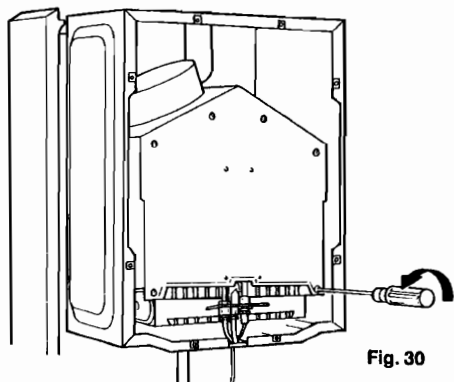

Fig. 30
8.7.3 Remove front of combustion chamber by releasing six screws (fig 30)